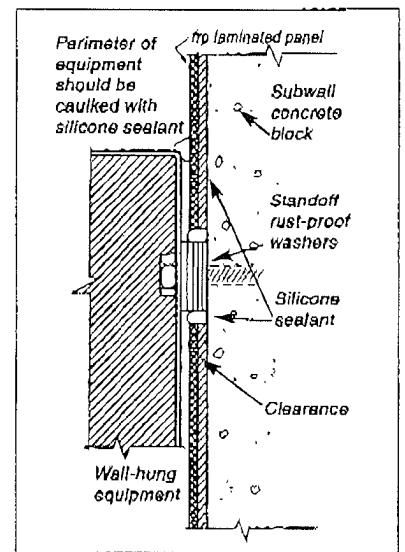

Figure 11
6. Install wall-hung equipment and signs with standoffs (washers) between the substrate wall and equipment, making certain that the standoffs are thick enough to expand and contract. Drill panels 1/4" diameter larger than the standoffs (Figure 11).
7. Caulk and seal all edges to keep water from getting behind the panels (Figure 11).